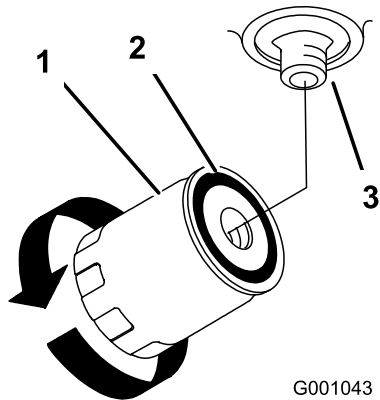

Figure 65
4. Apply a thin coat hydro fluid to the rubber gasket on the replacement filter (Figure 65).
6. Fill the hydraulic tank with hydraulic fluid until the fluid overflows the filter and then turn the oil filter clockwise until the rubber gasket contacts the filter adapter, then tighten the filter an additional 1/2 turn (Figure 65).